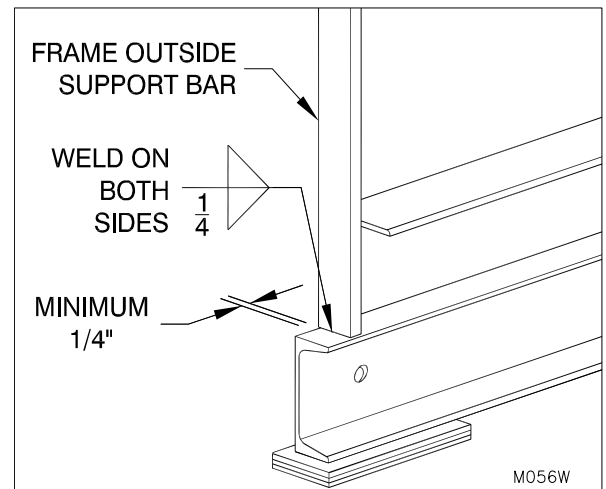

Figure 23: 30,000 lb + Outer Rear Shims (4" Shim Kit Channel Shim Shown)
19. ___ For 30,000 AD models and higher capacities, weld the additional two rear shims to the outside support bar of the frame as shown in "Figure 23: 30,000 lb + Outer Rear Shims (4" Shim Kit Channel Shim Shown)" on page 20 and shim until they are fully supported. Weld all of the shims to each other as well as to the dock leveler frame.